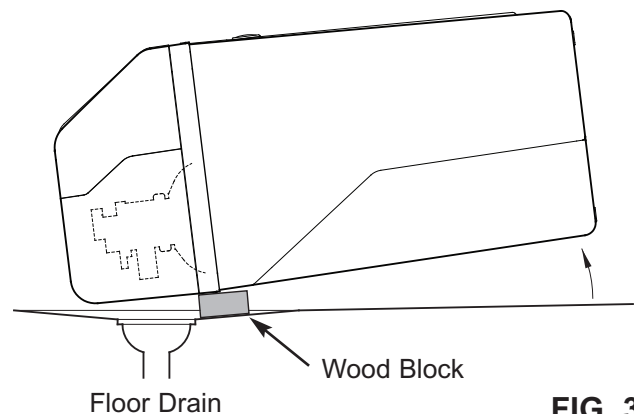

FIG. 38
6. Lay a piece of 2 inch thick board near the floor drain (See Figure 38).